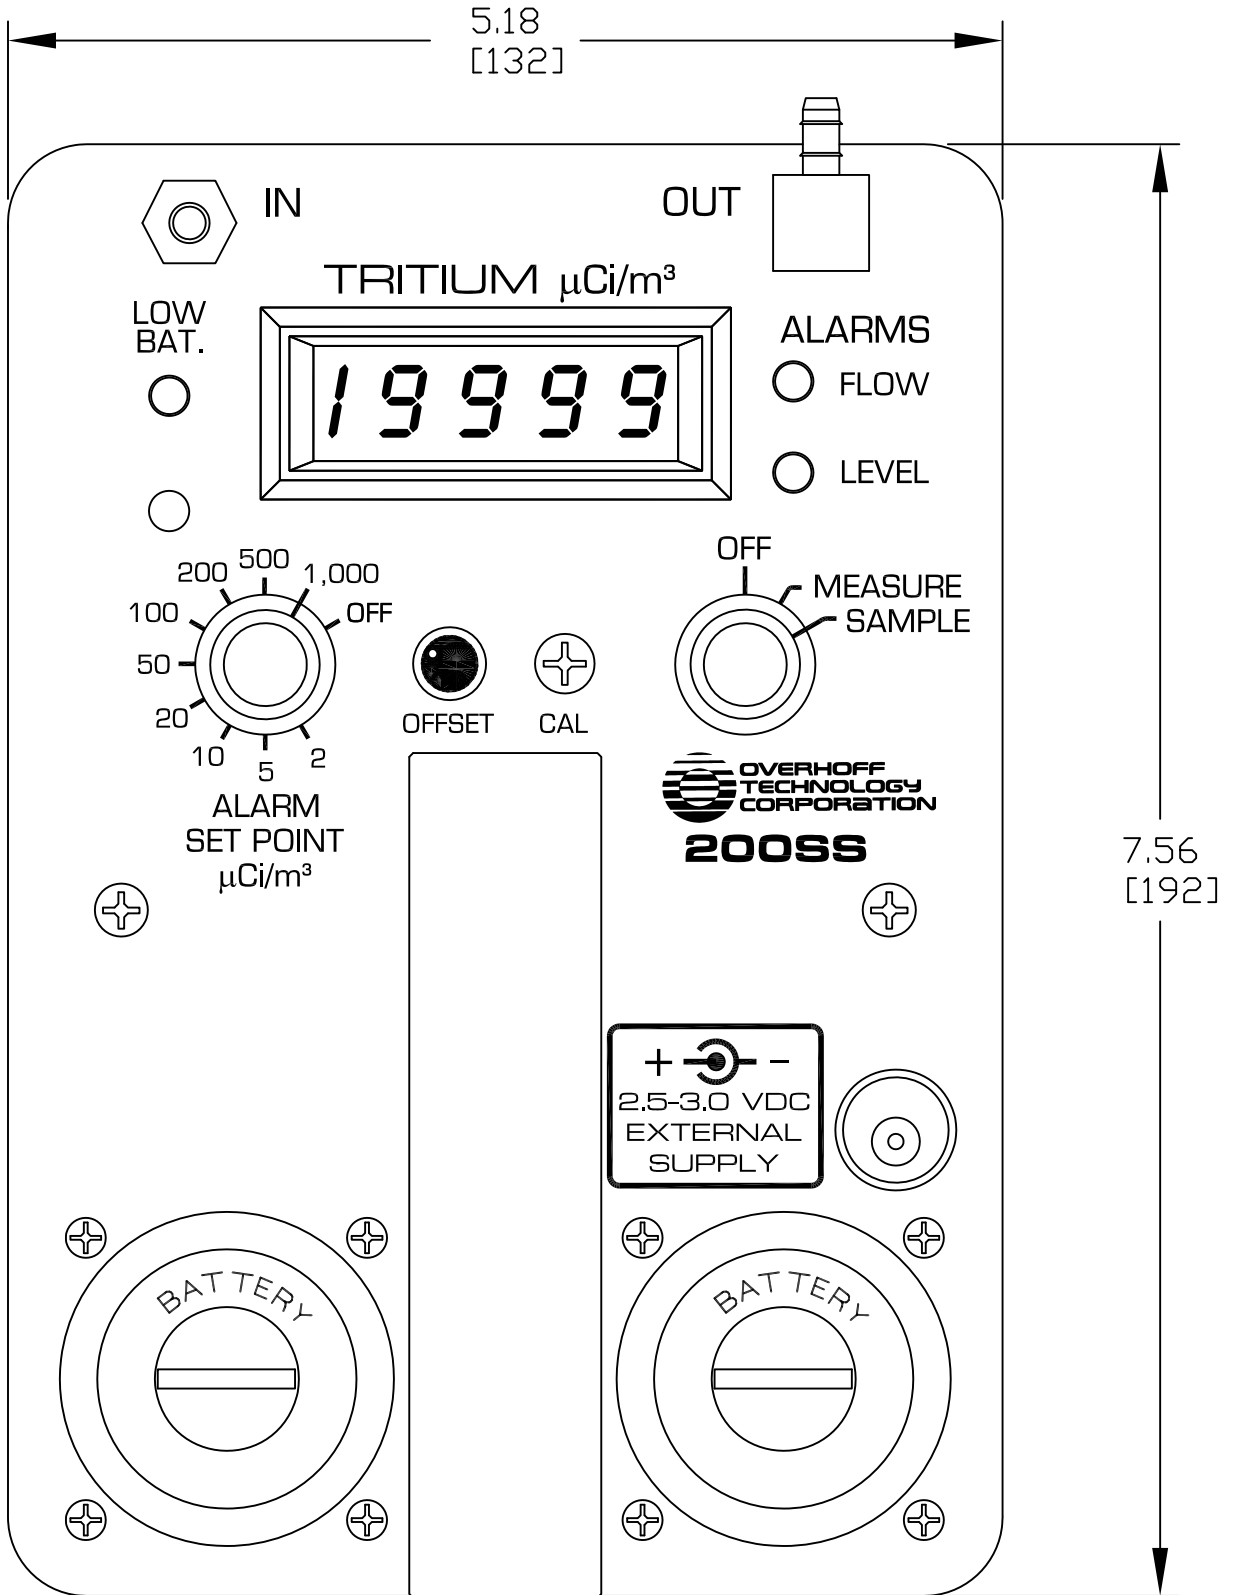

FIGURE 1
3. Adjust the **OFFSET** compensation potentiometer knob as required. The location is shown in Figure 1.